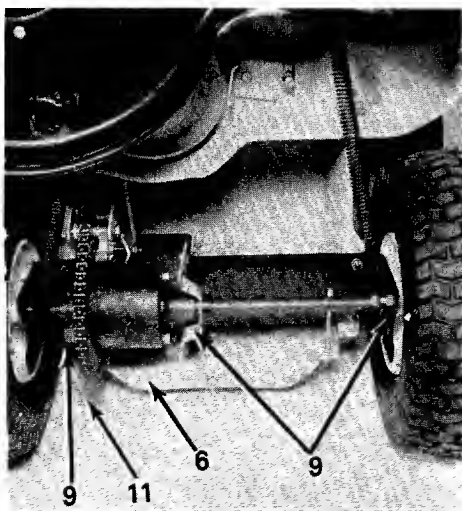

FIGURE 20
6. Differential. Lubricated at the factory with 2 ounces of high temperature grease (450°F.). The grease should only be checked or replaced if the differential is disassembled for repair. See figure 20.
9. Rear Axle Bearings (3). Requires no lubrication. See figure 20.
11. Chain. Remove and clean with kerosene. Lubricate with an oil soaked rag. See figure 20.